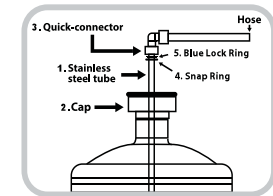
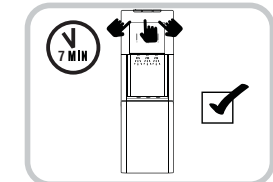

Fig.1
Fig.2
3. Installing the water bottle pump conection (Fig. 1)
A. With a 3 or 5 gallon water bottle standing outside the unit, just in front of the opened cabinet, place the stainless steel tube (1) inside the bottle with at least a gallon of water (insert the bent end of the tube into the bottle). Part of the tube will be exposed over the bottle neck. It is normal to have a further portion of the tube exposed when using a 3 gallon water bottle.
B. Slide the bottle cap (2) over the tube and press it down on the opening of the bottle to secure it.
5. Plug the dispenser unit into the electrical outlet. Please review the IMPORTANT SAFETY INSTRUCTIONS and INSTALLATION GUIDELINES before doing so. The unit will start to fill the cold and hot water tanks (it will take approx. 7 minutes). Allow the water to settle into the cold and hot water tanks for 7 minutes. Push each water tap (hot and cold temperature) to ensure water is running through the unit. (Fig. 2)